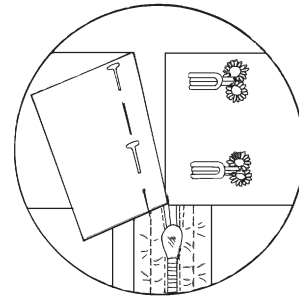

Fig. 14-2
3. Overlap the edge and use a pin to mark the position for a straight eye on the left-hand side. (Fig. 14-2)